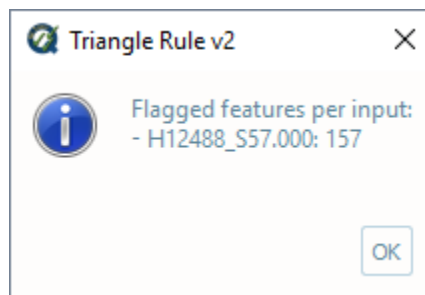

Fig. 2.46: Triangle rule's output message.
- After executing, the output window opens automatically, and the results are shown by textbox (Fig. 2.46).